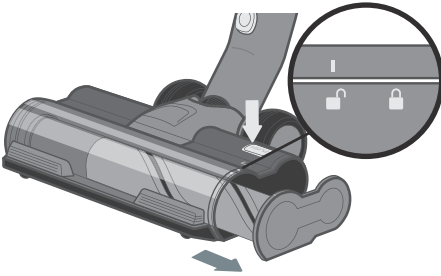

Figure 3.8
2. Press the Roller Brush Release Button and pull out the roller brush [Figure 3.8].